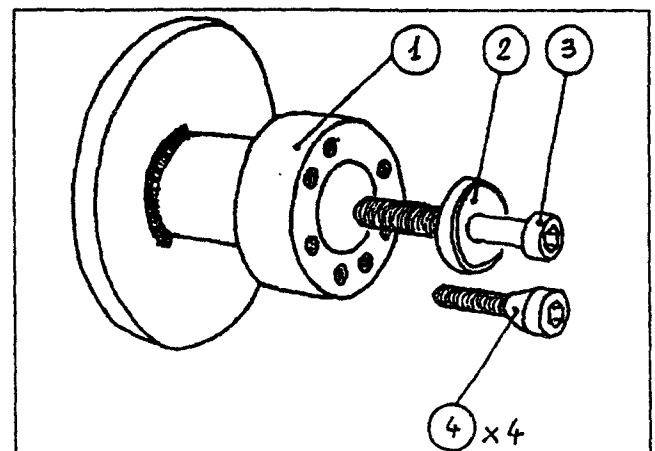

Fig.16
**#4018398 BMW Motorcycle adapter (Fig. 16).**